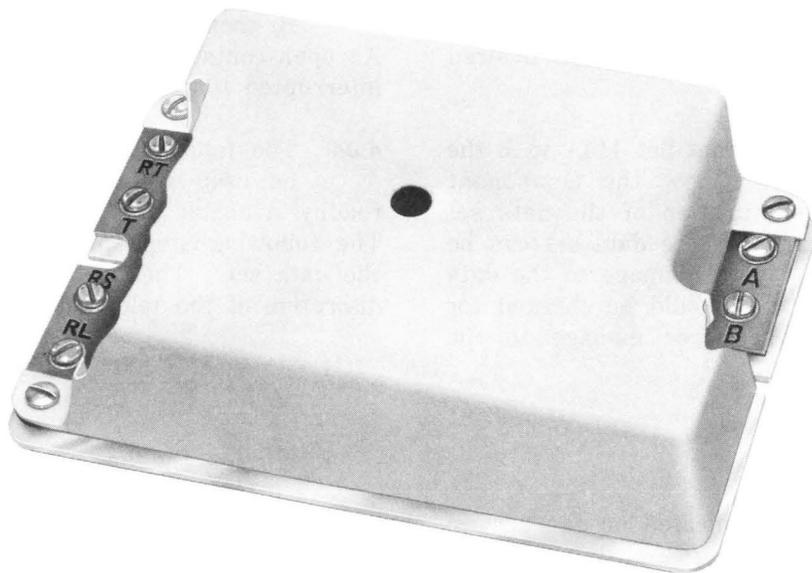

Fig. 3—Data Set 114A—Terminal Locations
2.07 The data set contains a squegging oscillator transmitter, ie, the oscillator is turned on and off by a resistor and capacitor in the base emitter circuit. When a low resistance is placed across terminals A and B of the data set (refer to Fig. 3 for terminal locations), the amplitude of the oscillation is limited and squegging does not occur. This provides a steady tone when the customer contacts are closed and an interrupted tone when the customer contacts are open.
4.01 Install the options indicated on the service order when connecting the data set for service. Refer to Table A for the connections to be made when installing the specified options. Refer to Fig. 3 for the location of the terminals mentioned in Table A.
4.02 Check the operation of the data set by connecting a 400-ohm resistor across terminals A and B of the data set (refer to Fig. 3). Place a call to the data set from a nearby or adjacent telephone. The data set should give a closed contact indication, ie, a steady tone.
1. Connect a 400-ohm resistor across terminals A and B of the data set (refer to Fig. 3).